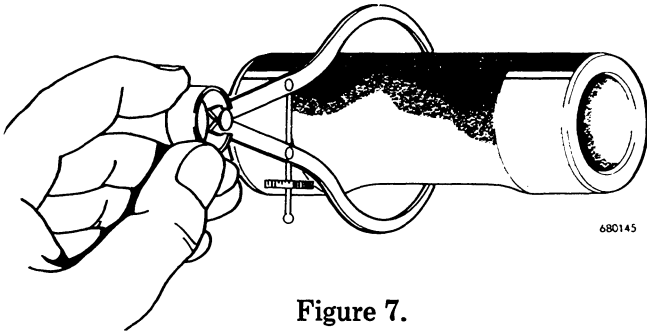

Figure 7.
1. **EXTERNAL BUSHING WEAR.** The amount of wear can be measured in any of the ways shown in Figures 7, 8 and 9.